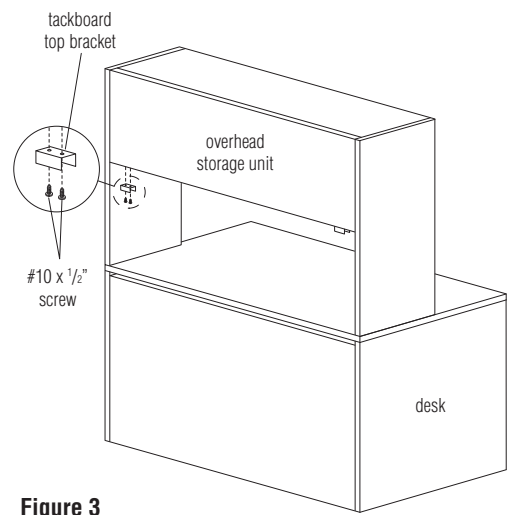

Figure 3
1. Attach tackboard top brackets to overhead storage unit back panel underside using two #10 x 1/2" screws per bracket as illustrated (Figure 3).